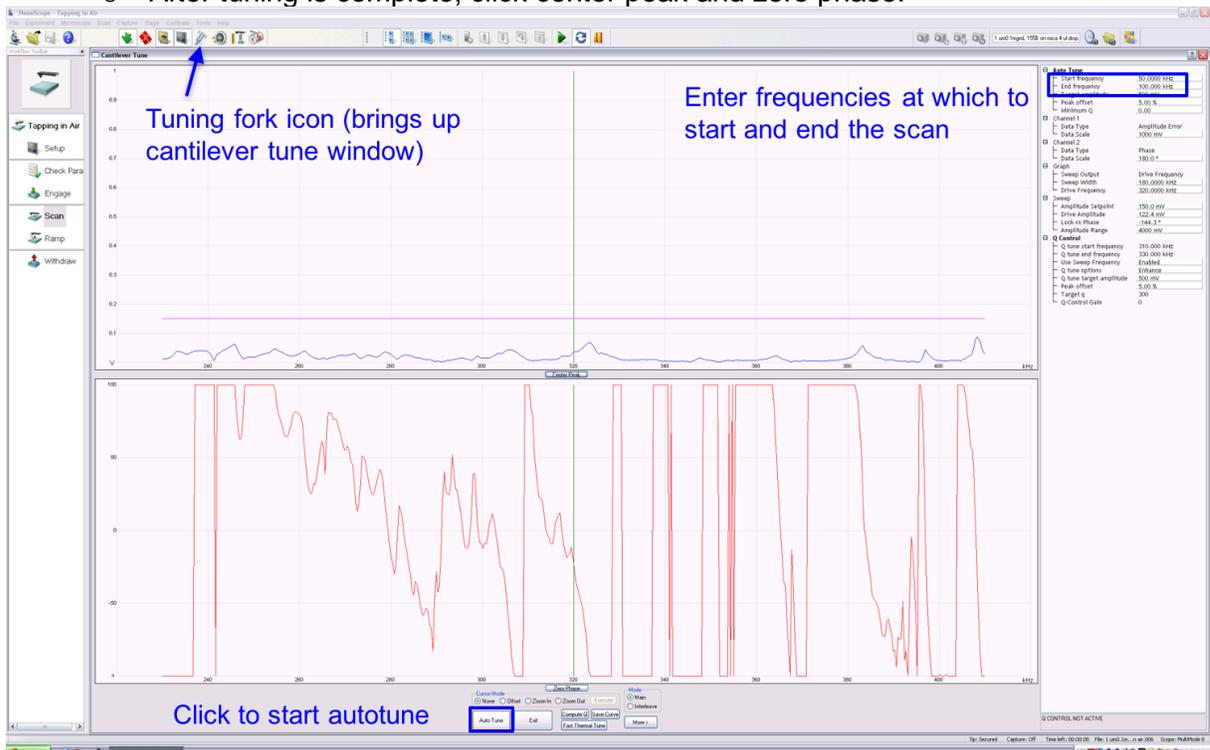

Figure 9. Cantilever tune window.
- In the tune window (**Figure 9**), set mode = main